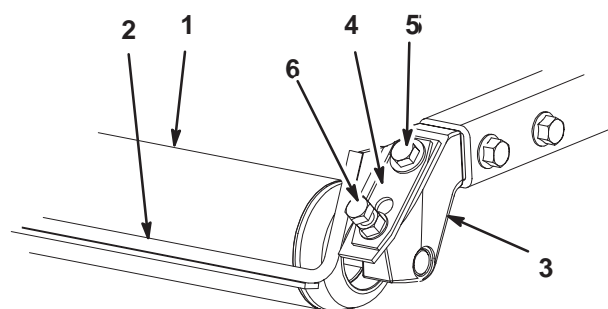

Figure 2
5. Loosely mount each end of scraper and a scraper plate to each roller mount with a short capscrew and a long capscrew/nut as shown in figure 2.